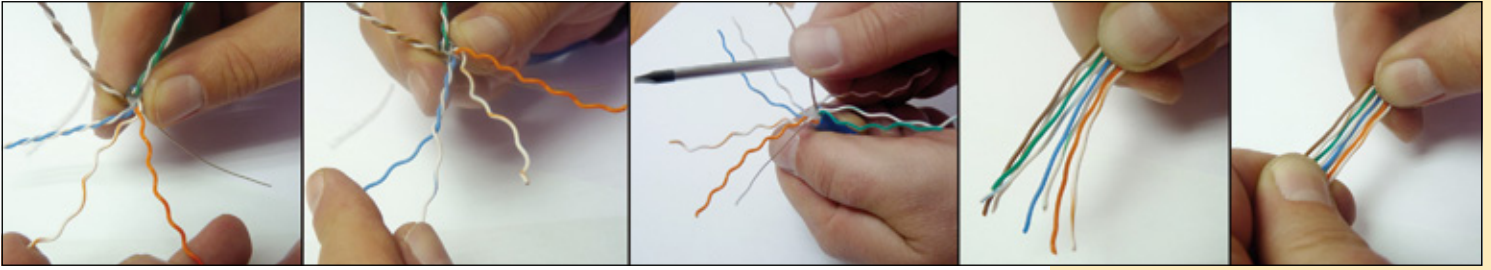

Figure 8
- 7 Please separate each pair wires and straighten them with the help of the screwdriver. As shown in Figure 8.